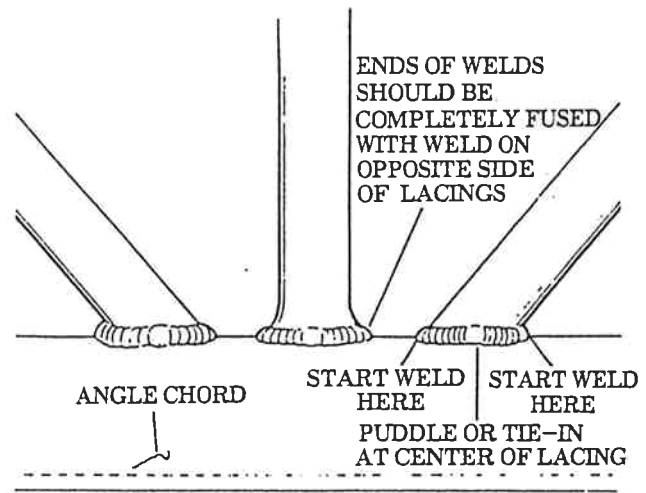

Fig. 2-18 Welding Lacings to Angle Cord
8. Weld the lacing in place, using the materials and techniques previously described in this manual (see Fig. 2-18).